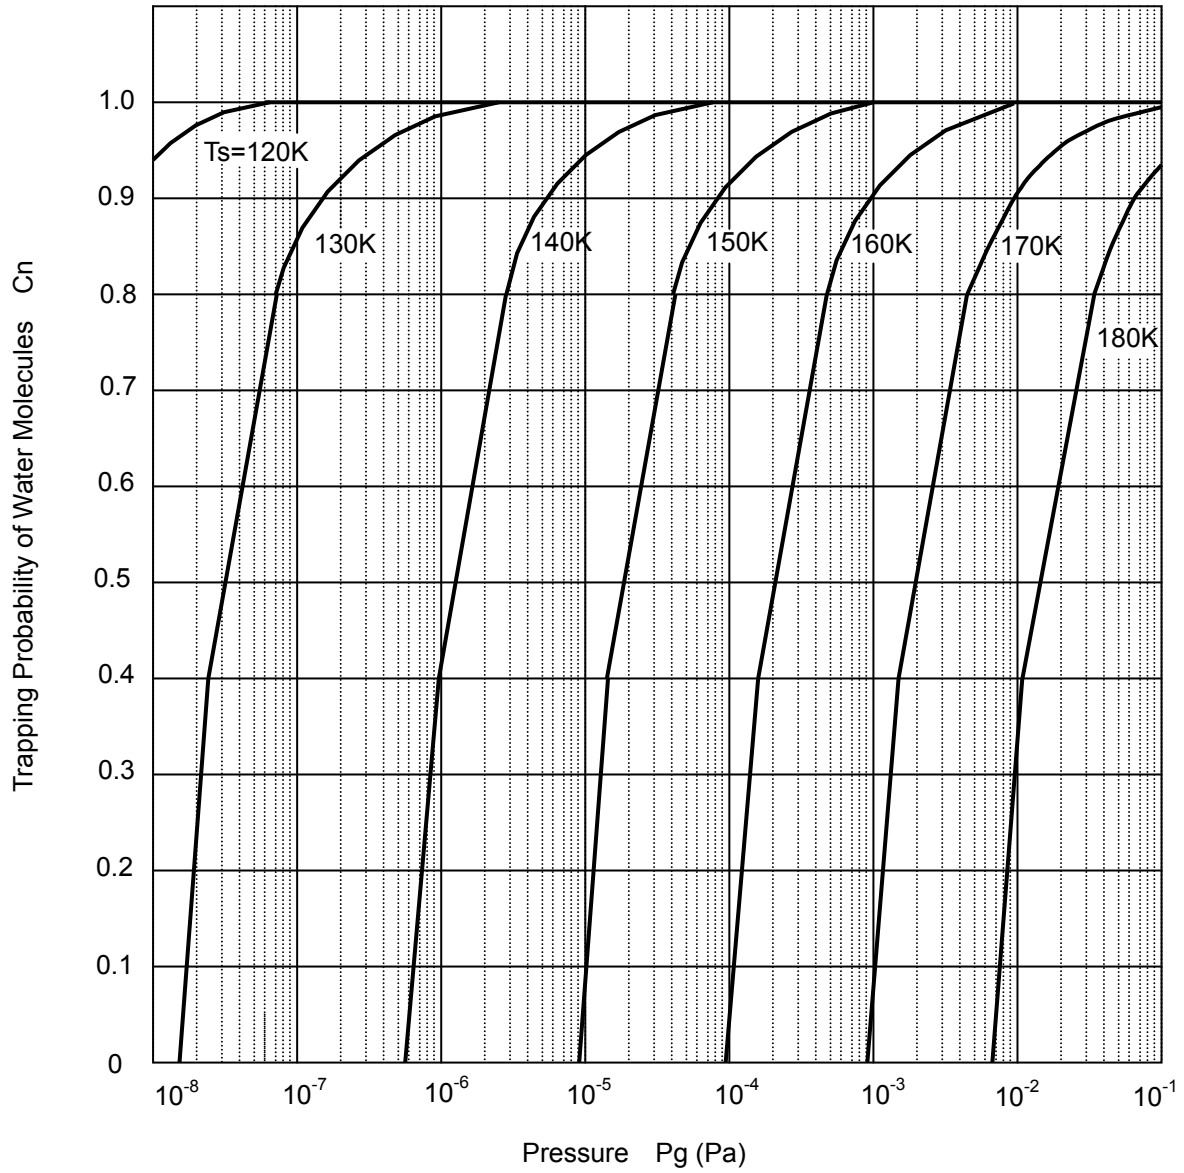

Figure D-2 Trapping Probability of Water Molecules and Pressure
The equation (1) is plotted in Figure D-2. You can see that the Super Trap temperature should be 130K or lower from the graph. The temperature of the Super Trap depends on the performance of cold head (which is determined by the combination of cold head and compressor), and the cryopanel sizes, the structure, and the thermal load (the radiant heat and construction of the gas). It is possible to keep the Super Trap below 130K if the pressure of Argon, presents in spattering process, is less than 2.7Pa and the radiant heat from the heat source is shielded completely.